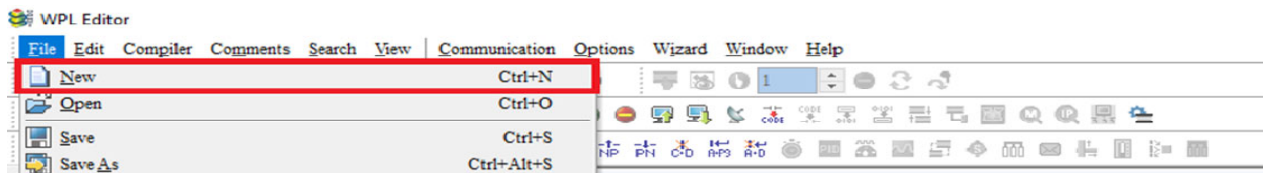

Figure 15-5
**NOTE** You can also find "New file (N) (Ctrl+N)" in the "File (F)", as shown in figure 15-5 below.